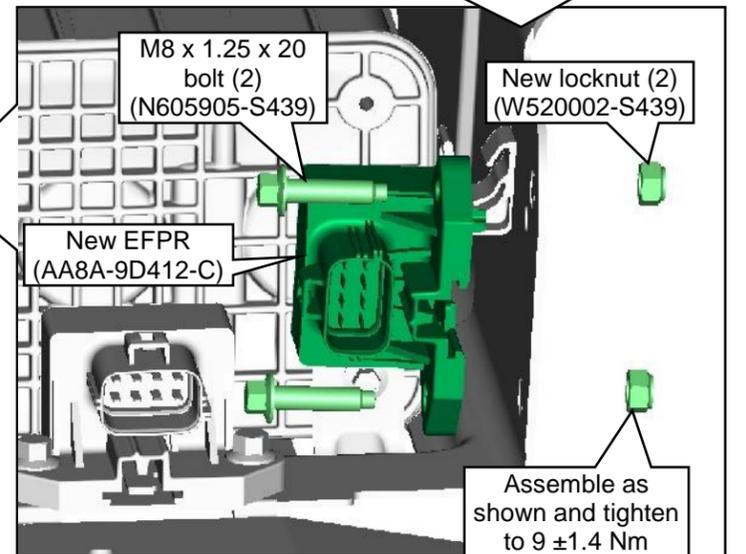

Figure 17.4 — OEM Aft-axle Tank Version
10. Install the new EFPR to inside of the vapor canister bracket and align with the locator tab and the two bolt holes. Install the two M8 bolts and nuts. Tighten to specification. The new EFPR and fasteners are supplied in hardware kit P12EB-ELECKIT-A. **Figure 17.4.**